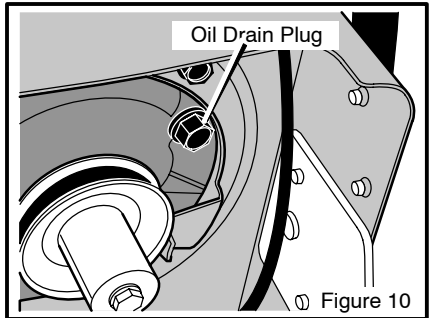

Figure 10
2. Remove the **oil drain plug** as shown in Figure 10.